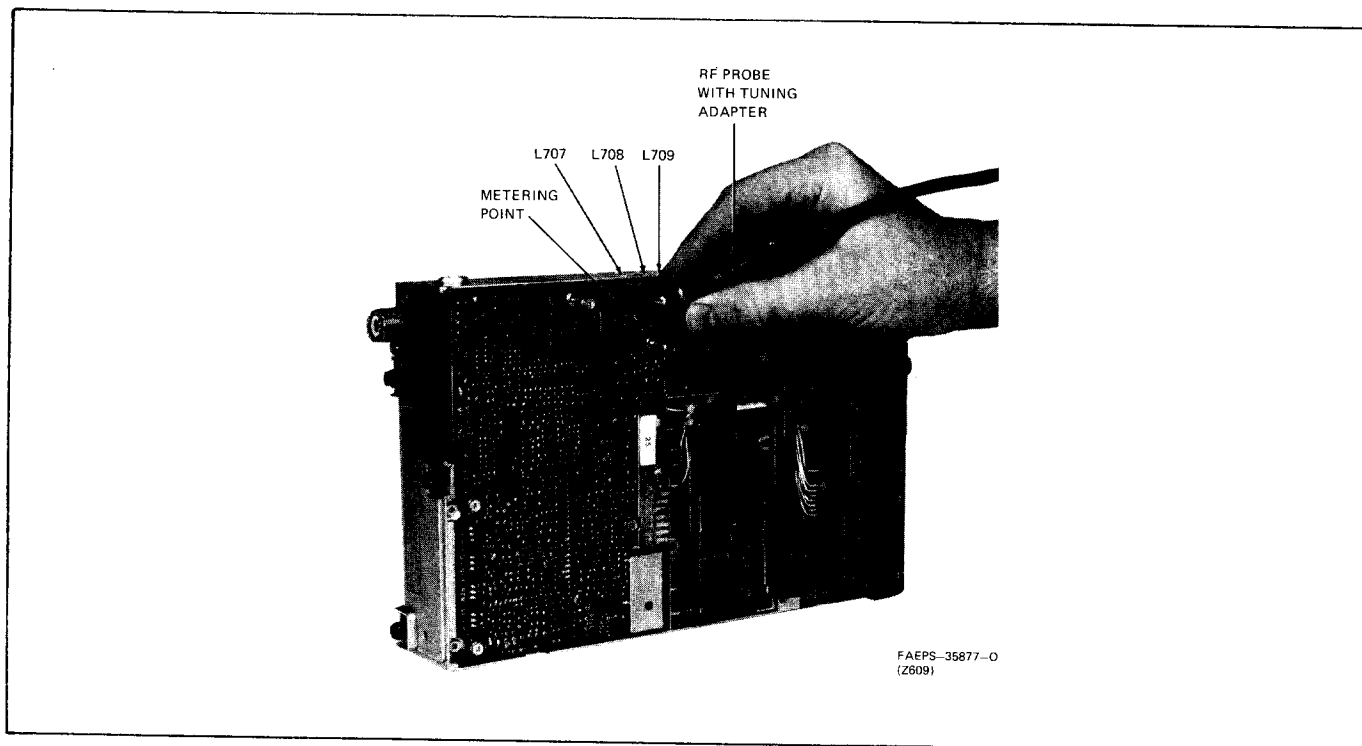

Figure 6. Main Board Side Tuning Probe Position
Step 10. Place the radio into the position shown in Figure 6, and insert the test probe adapter tip through the HI RNG FLTR probe hole in the main board and into the tuning hole of the first cavity (L707) of the high range switched filter.
Step 10. Place the radio into the position shown in Figure 6, and insert the test probe adapter tip through the HI RNG FLTR probe hole in the main board and into the tuning hole of the first cavity (L707) of the filter.